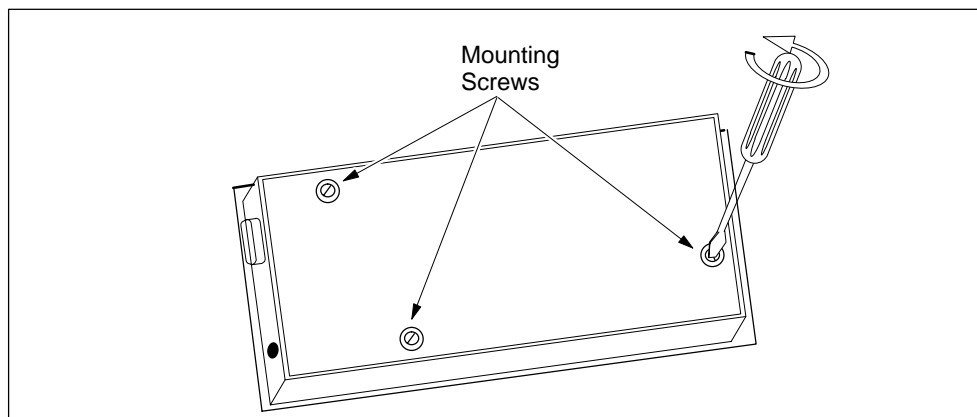

Figure 1-6 Removing the Three Mounting Screws
1. Remove the three screws from the rear of the TD 200 using a flat-head screwdriver or a T8 Torx screwdriver. See Figure 1-6.